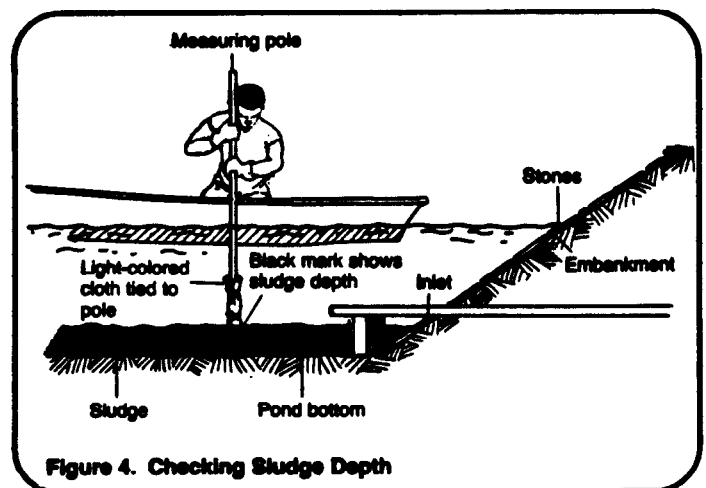

Figure 4. Checking Sludge Depth
**Checking Sludge Depth.** Once each year, measure the sludge depth near the inlet of the pond. Use a boat and a long wooden pole with about 1m of light-colored cloth wrapped around and tied to the lower end. See Figure 4.